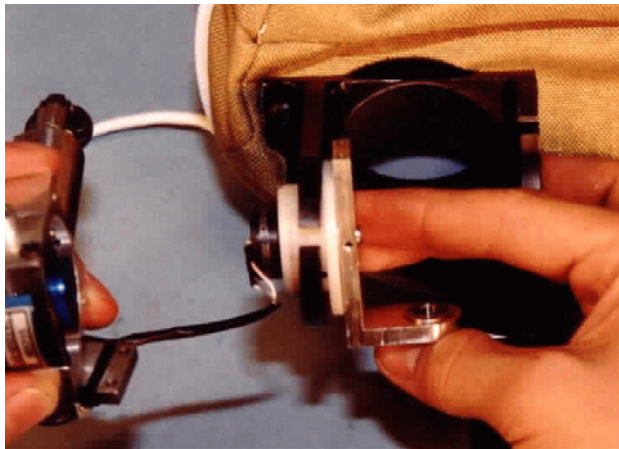

Figure 10.11- Insert Rotary bushing through 1.25" hole
10. Insert the Rotary Bushing (T1DPM211) and Yoke Axis Rotary Potentiometer (T1DPM210) through the 1.25" diameter hole of the left attachment bracket, as shown in **Figure 10.11**.